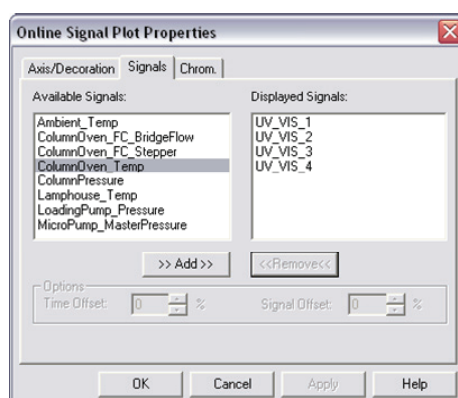

Fig. 9: Selecting the channels to be displayed
4. The On-line Plot emerges on the screen with a predefined set of channels. To select which channels are displayed, **double-click in the On-line Plot** and use the “**Add**” / “**Remove**” buttons in the dialog that opens, Fig. 9.